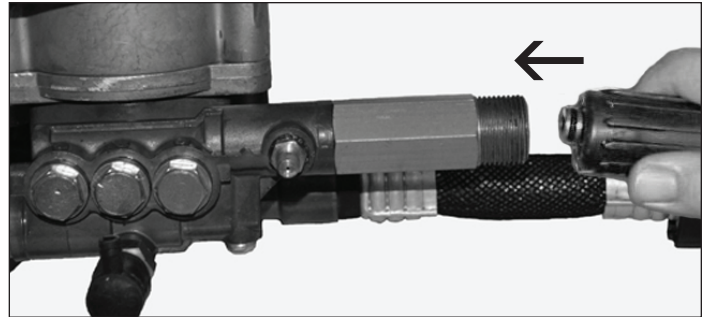

Figure 7 - Connect high pressure hose to pump
4. Connect the high pressure hose to the pump outlet (See Figure 7).